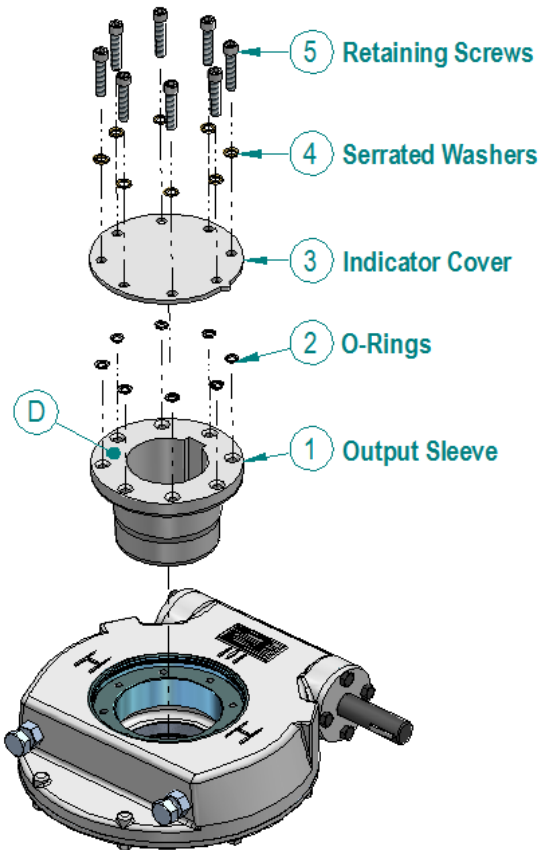
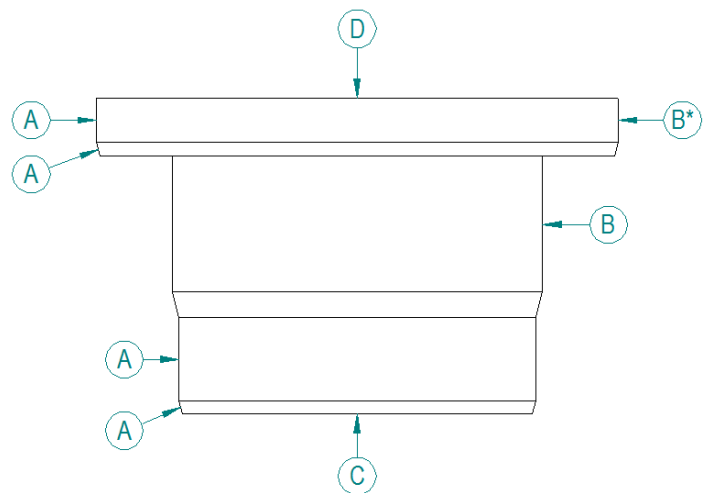

Figure 1 - IW3-11 Output Sleeve Fitting
Figure 2 - IW Output Sleeve, Important Surfaces
Gearbox sizes IW12 to IW16 have an output which is directly machined as specified with the order. All other worm gearbox combinations have a removable output sleeve. See Item 1, Figure 1.
Figure 1 shows the removal of the output sleeve from the gearbox. See Figure 2 for removing the output sleeve without damaging the sealing faces.
Important Notes in Figure 2:
Referring to the item numbers in Figure 1, the output sleeve can be easily removed from the top of the gearbox by first removing the retaining screws (5). The screws are either serrated under their heads or are fitted with serrated washers (4). Then remove the indicator/cover plate (3).
Referring to Figure 1, O rings (2) are used to seal the indicator plate, output sleeve and retaining screws. Upon final installation on the valve, screws (5) must be tightened to the correct torque figures as shown on the label on the underside of the indicator/cover plate.
Before re-fitting the output sleeve after machining, check that the surfaces marked 'A' in Figure 2 are not damaged. Damaged surfaces can break the gearbox seals and cause water ingress or grease leakage. Applying a thin layer of grease to the faces marked 'A' will make refitting of the sleeve easier.
As detailed in Figure 1 and Figure 2, it is recommended that silicon sealant is applied to face 'D' to seal the indicator/cover plate to the output sleeve. Taking care not to apply sealant to the o rings (2) or the sealing faces with the o rings.
Before re-assembly, clean and de-grease the top face of the output sleeve, underside of the indicator/cover plate, and the socket head cap screws. Make a note of the tightening torque required for the output sleeve screws on the label on the underside of the indicator plate. Insert the screws and washers into the holes in the indicator/cover plate, as per Figure 1.